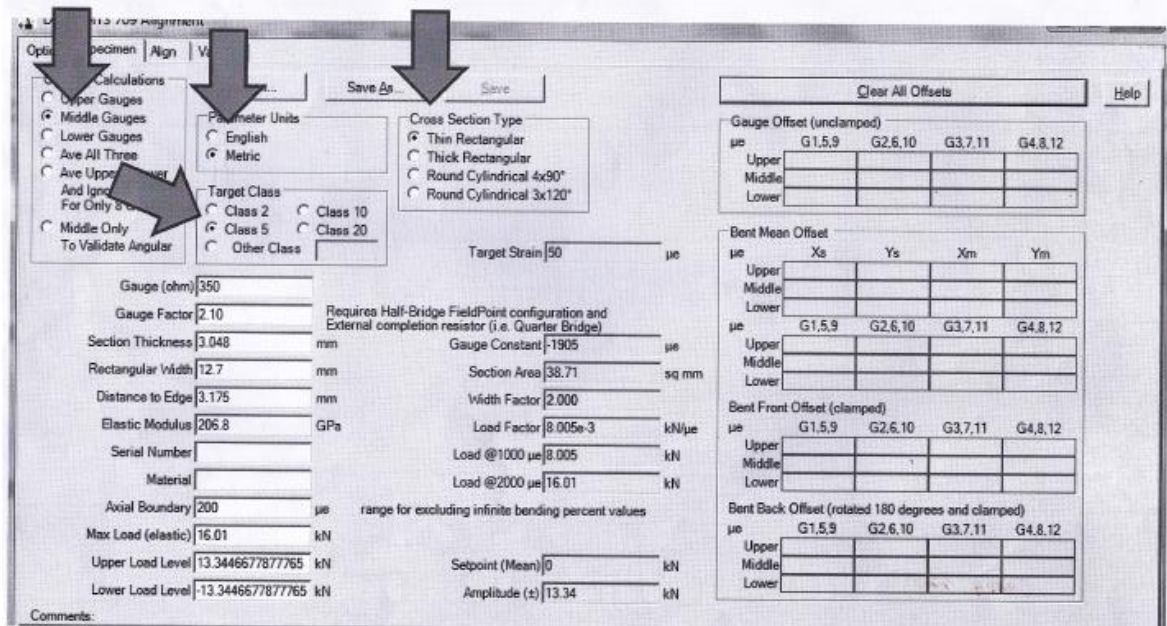

Figure 3: Specimen Tab Setting
e) In the Specimen tab option, follow the setting as shown in Figure 3.